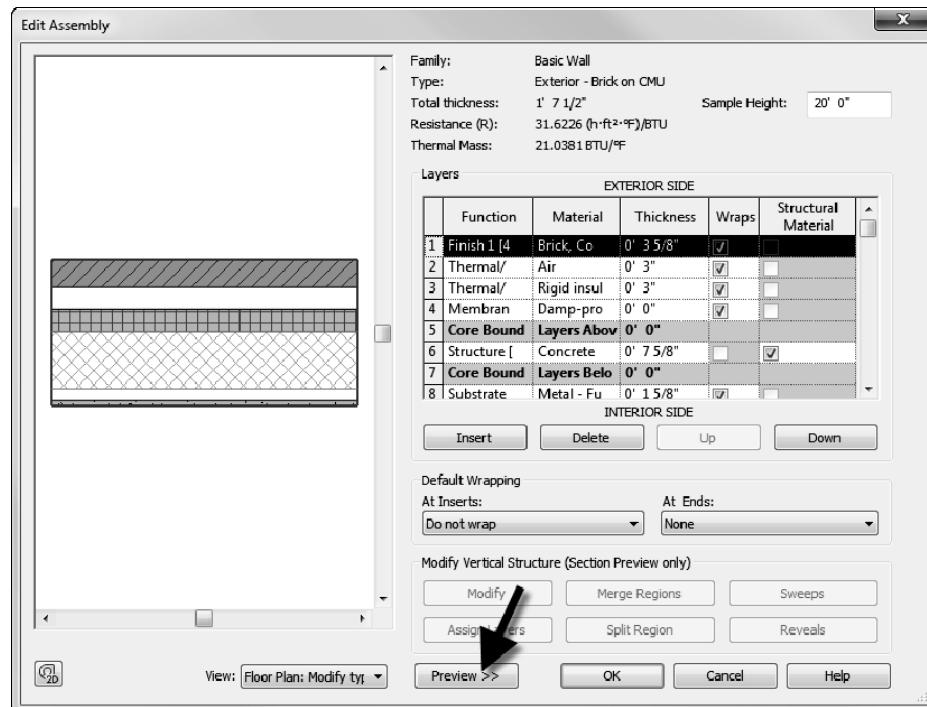

FIGURE 3-2.5 Edit Assembly
- Finally, you are in the *Edit Assembly* dialog box. This is where you can modify existing wall types or create new ones. Click <<Preview to display a preview of the selected wall type. (Figure 3-2.5)
Things to notice in the *Edit Assembly* dialog box (Figure 3-2.5):